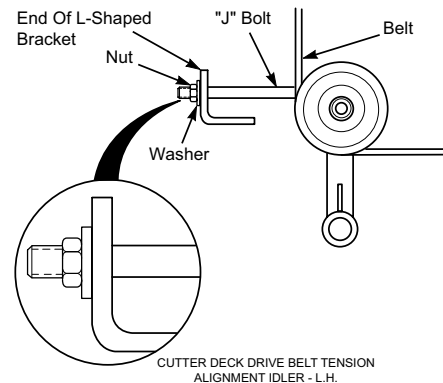

Figure 6-2. Deck Drive Belt Adjustment
2. Adjust the cutter deck drive belt using a belt tension gauge. Adjust the belt so that the belt moves 1/2" with 10 pounds of pressure. Adjust the tension by tightening or loosening the J-bolt. See Figure 6-2.